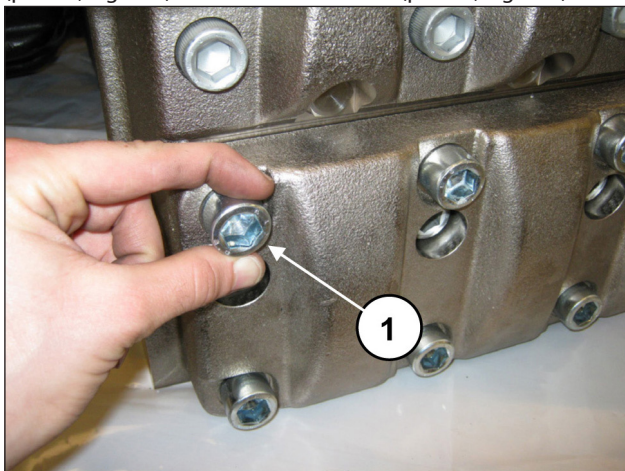
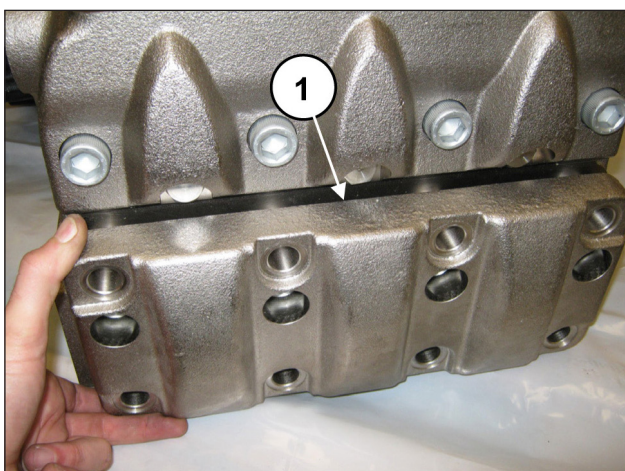

Fig. 136
Fig. 137
Unscrew the 8 M16x45 screws of the suction valve cover (pos. ①, Fig. 136) and remove the cover (pos. ①, Fig. 137).